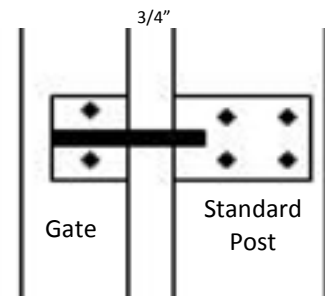

Fig. 13
**Step 6.** Using the eight 8-3/4" screws provided attach your latch as marked, and firmly fasten into place (Fig. 13).